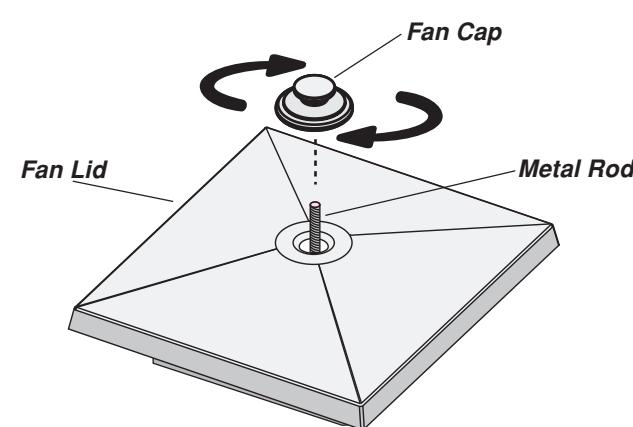

Figure 4
5. Set **Fan Cap** onto the **Metal Rod** in the center of the **Fan Lid**. (**Figure 4**)